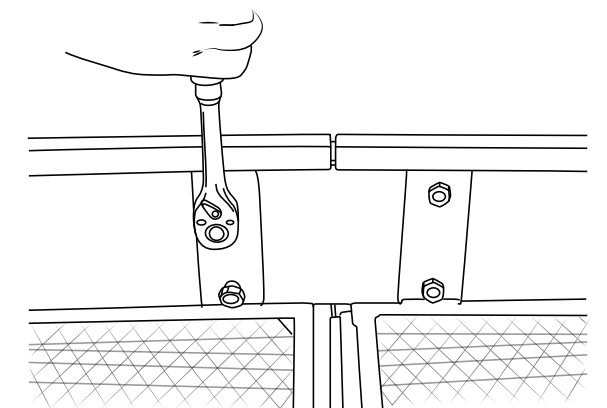

Fig. 3
- Flip the basket over and attach the two central connecting plates to the outside of the basket. One in front (with logo) and one on the hitch side (no logo). Attach using the short bolts placing them through the outside of the basket (4 per face plate). Secure by threading the nuts (and washers) onto the bolts from the inside of the basket. Full tighten the nuts and bolts. **(Fig. 3)**